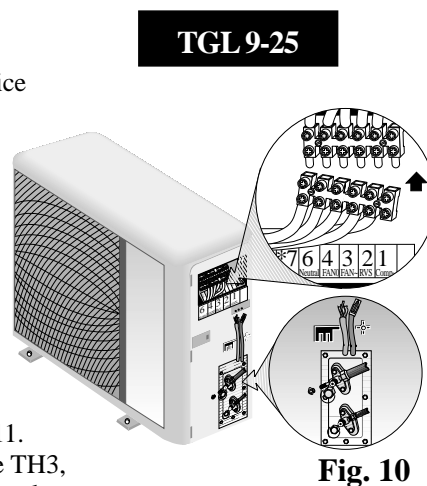

Fig. 10
- For TGL 9-25 secure the inter-unit electric cable in between the plastic pins shown in Figure 10.